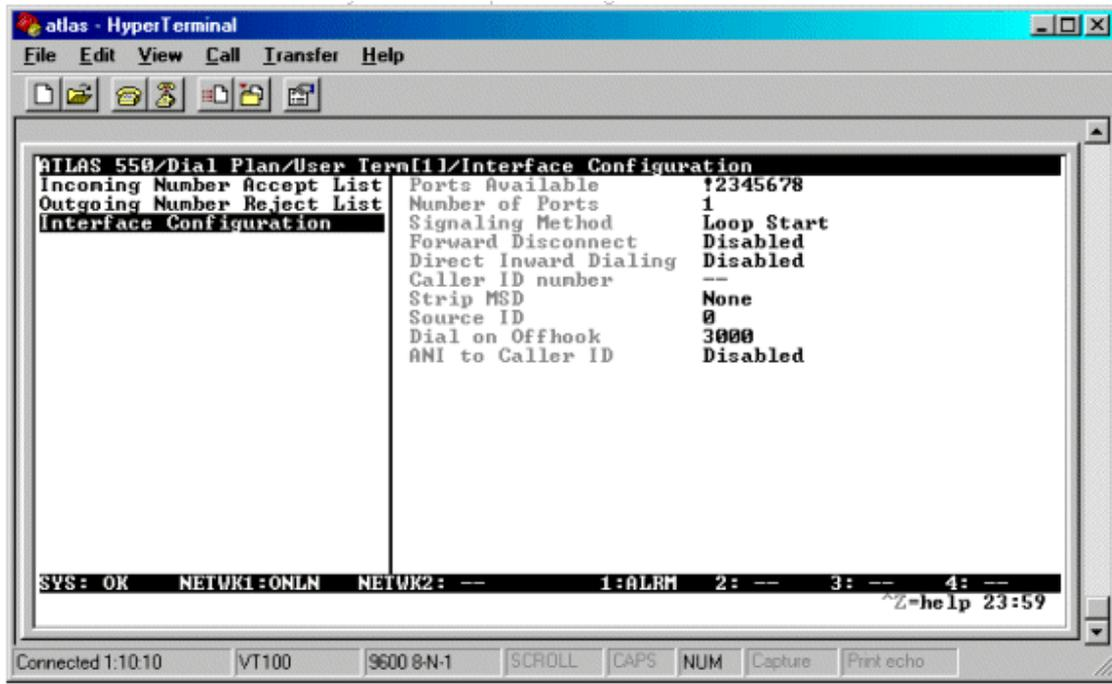

Figure 18
4. Press >esc<: until you are back to the **User Term** screen. Go to **lfce Config** and press <enter>. You should now see a screen similar to **Figure 18**.